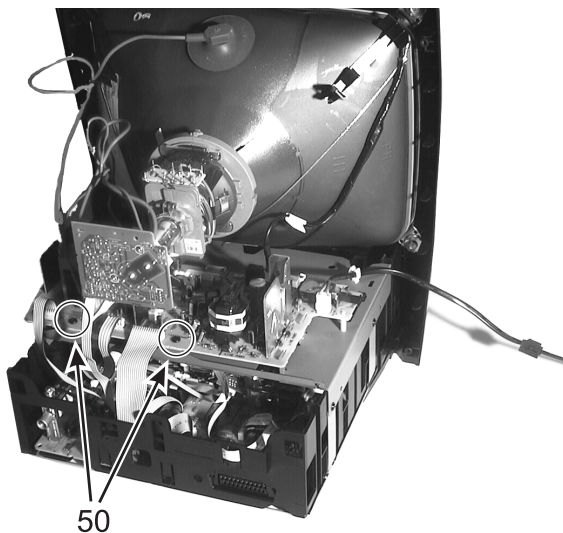

Figure 4-10
2. The large signal board can be removed after unfastening the two screws 50 from the shield (see figure 4-10).